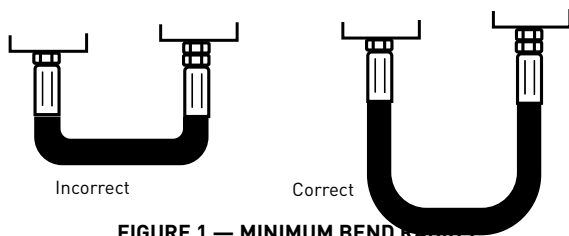

FIGURE 1 — MINIMUM BEND RADIUS
**5.21 Minimum Bend Radius** – The minimum bend radius is defined in SAE J343 and is specified in other SAE standards and hose manufacturer’s product literature. Routing at less than minimum bend radius may reduce hose life. Sharp bending at the hose/fitting juncture may result in leaking, hose rupturing, or the hose assembly blowing apart (see 4.2 and Figure 1).